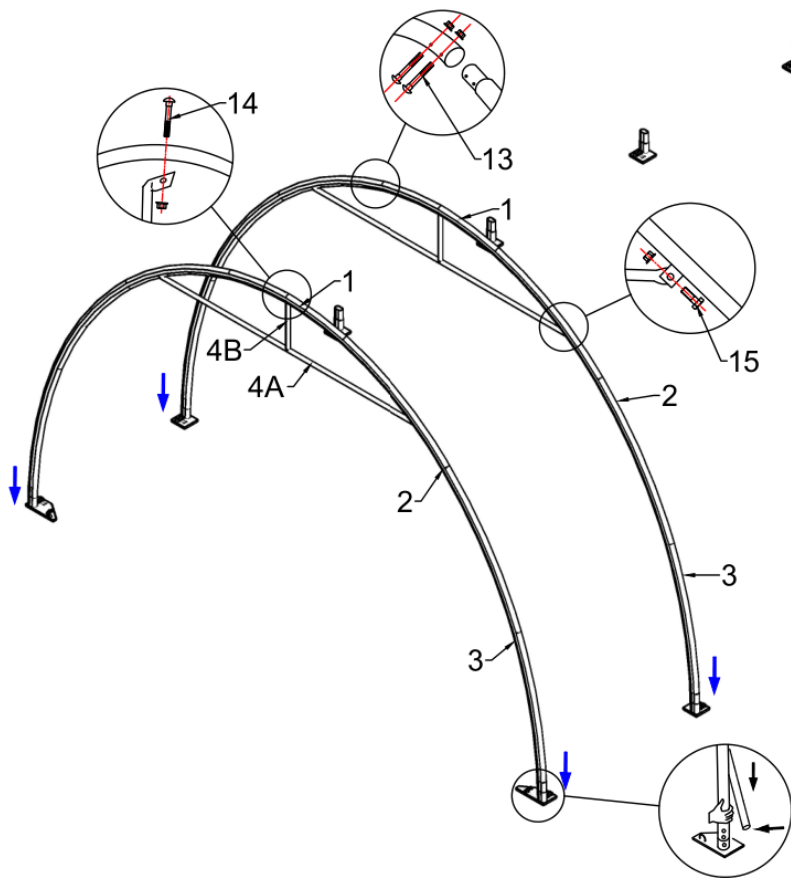

Figure 3
3.1 As Figure 3 shown to find one Roof Bent Tube (No.1), two Middle Bent Tubes (No. 2), Lower Bent Tube (No. 3) and assemble every group arch with BoltM8x60 (No.13). **DO NOT** install the screw on the top of the truss where the fabric will rest.